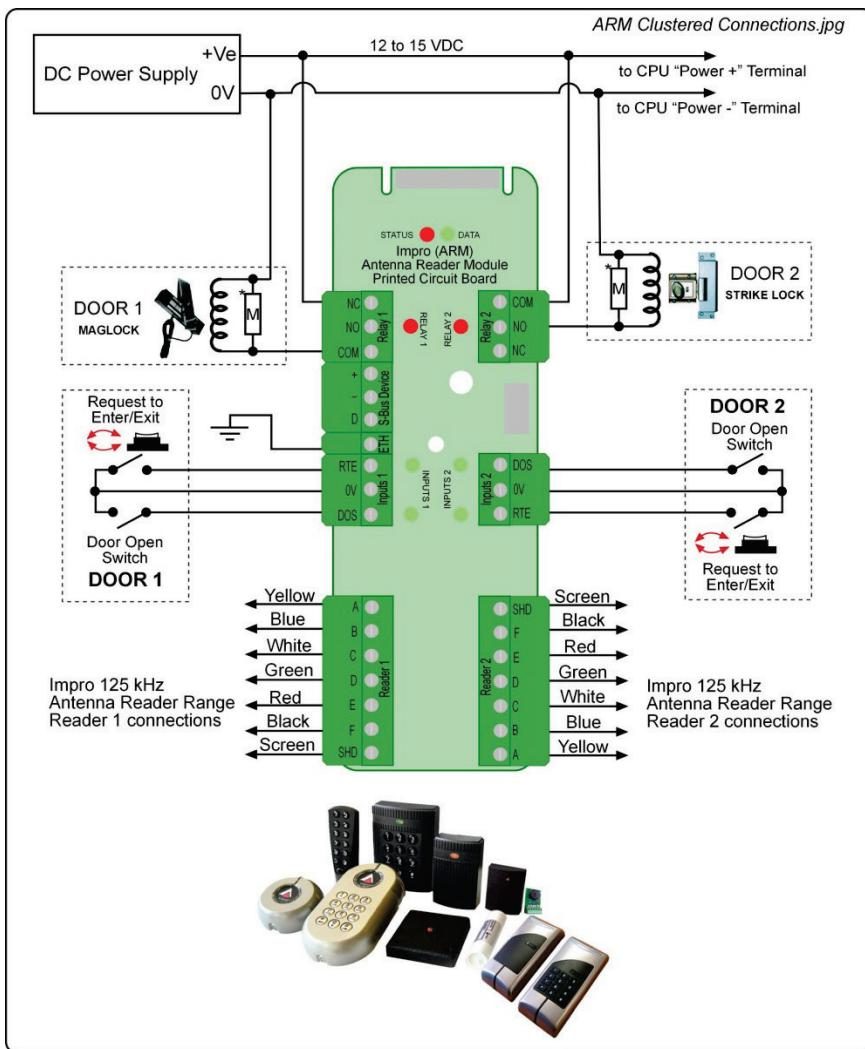

Figure 4: Typical (Clustered) ARM Electrical Connections
Figure 4 shows a detailed electrical connection diagram for the (Clustered) ARM.
- NOTE:** **Figure 4** shows typical connections to the ARM in the Plastic Cluster Housing – AND for the PCB Card model when it is installed in a 19" Rack System. The ARM will get its power supply from the Cluster Connection, or the edge-connector, respectively.